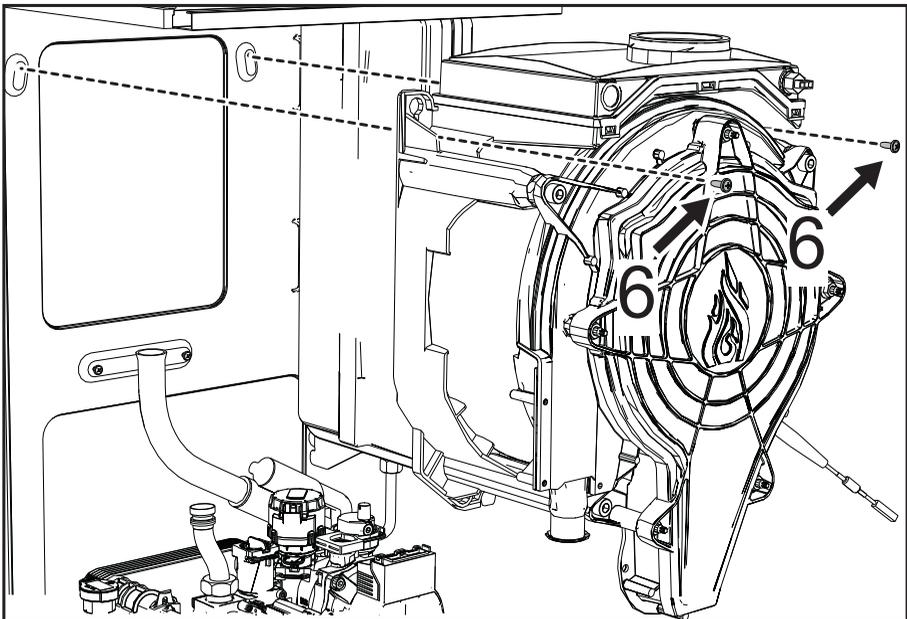

fig. 65
- Remove the 2 **top screws "6"** securing the exchanger to the frame (fig. 65).